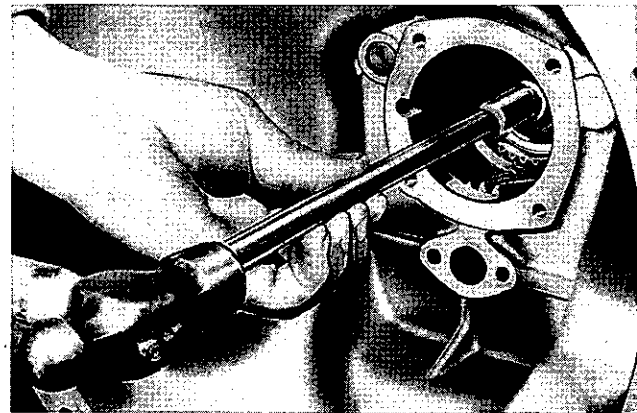
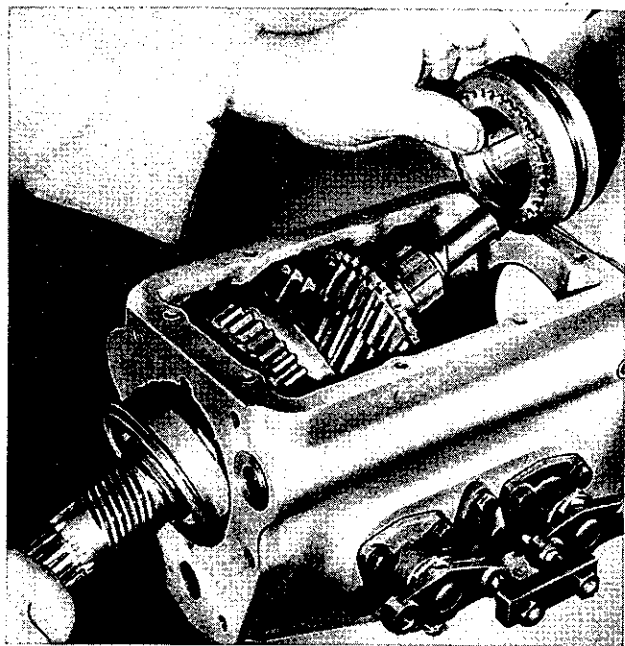

Fig. 8. Releasing mainshaft assembly and bearing from casing with Special Drift—Tool No. 20SM-1
Fig. 9. Fitting or removing second and top gear assembly
12. Tap the mainshaft towards the rear with a soft metal drift as shown in Fig. 8 sufficiently to clear the bearing of its housing and then tilt the shaft sufficiently to enable the Second and Top Synchro Unit to be withdrawn as shown in Fig. 9. Note position of the